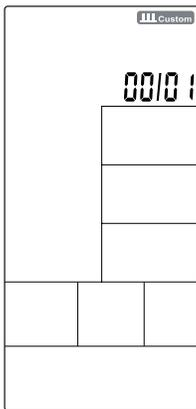

Figure 32
1. Press the “INTERVAL” button to select **INTERVAL CUSTOM** mode. Press “ENTER” to begin. The **INTERVAL CUSTOM** icon will flash, displaying 00/XX. Use the “UP” and “DOWN” buttons to set the cycle count (range: 1–99). Press “ENTER” to confirm, and the buzzer will sound for 1 second (see Figure 32).